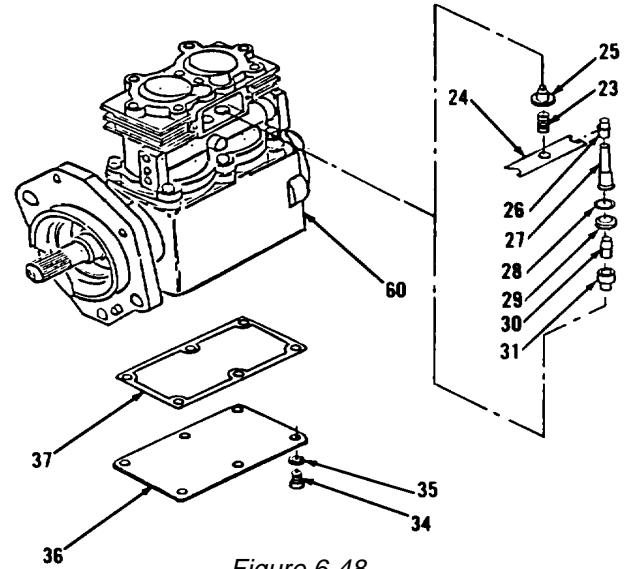

Figure 6-48.
12. Remove spring (23), saddle (24) and seat (25, Figure 6-48).
13. Remove two guides (26), plungers (27), rings (28), grommets (29) and pistons (30). Discard two rings (28) and grommets (29).
14. Remove two bushings (31).